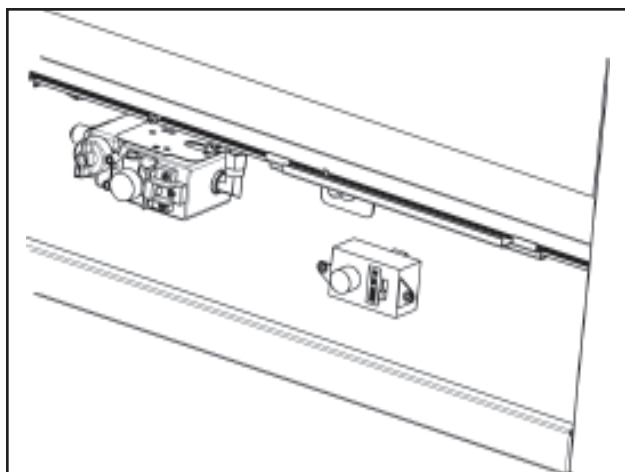

Figure 9
- e. Attach the velcro to the left or right side of the receiver. Remove the velcro backing and place the receiver in the bottom of the appliance (near the valve) with the sensor (extending column) facing towards the grille/access panel (make sure the sensor is at least 1" behind the grille/access panel). See Figure 9.